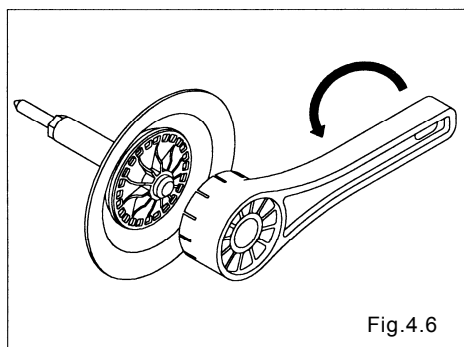

Fig.4.6
- Remove the center disk with supana(21mm), and remove the diaphragm, center disk and O ring (PC, PT) from the center rod. (AD-10P□) [Fig.4.6]
- Remove the center disk with the attached tool (dedicated tool: part No.771244), and remove the diaphragm, center disk and O ring (□T) from the center rod. (AD-25P□, VT) [Fig.4.6]
- Remove the center disk with the PP wrench (dedicated tool: part No.771868), and remove the diaphragm, center disk and O-ring (□T) from the center rod. (AD-40P□, AD-50P□) [Fig.4.6]